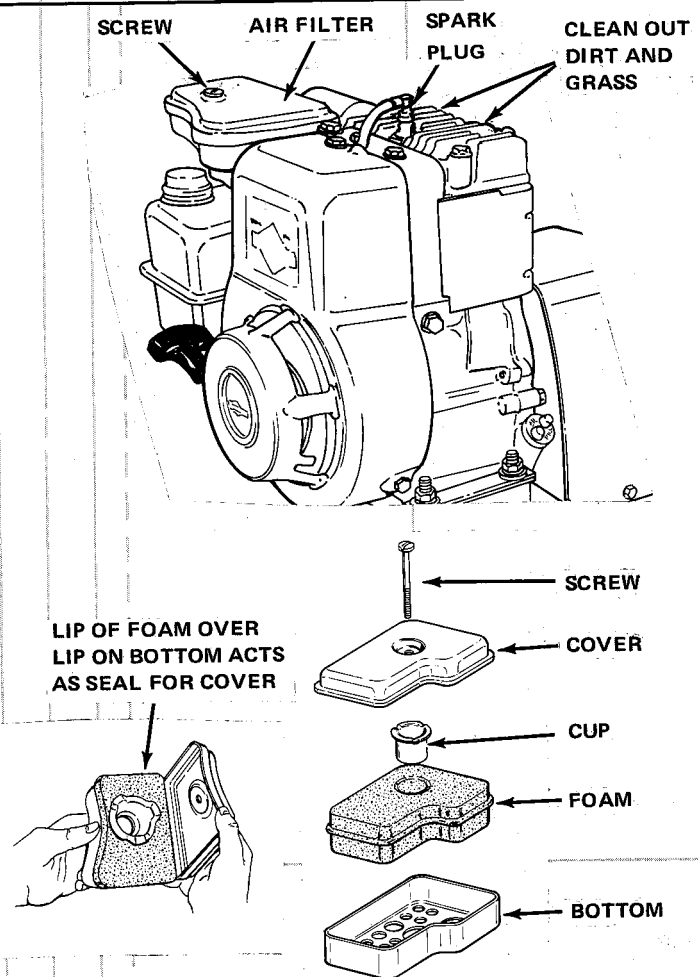

Figure 10. Clean Engine and Air Filter (25-Hour Care or As Required)
1. Clean engine fins and air cleaner (figure 10).
3. Engine exhaust is black or smoky.	<ul style="list-style-type: none"> <li>A. Dirty air filter. Clean filter (figure 10).</li> <li>B. Choke not fully open. Be sure choke is in full off position. Check carburetor adjustment.</li> </ul>